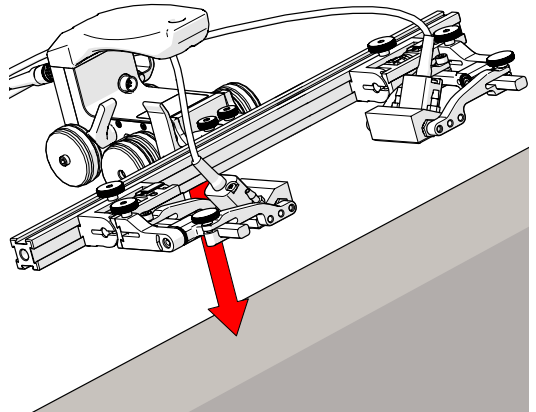

Fig. 79 - Place on scan surface
7. Place the configured **MICROBE** on the scan surface (Fig. 79).